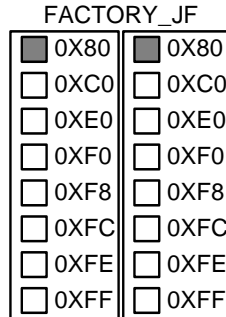

Figure 7: Edit Block View of DCM FACTORY\_JF Settings
- Check the two 0X80 options for the FACTORY\_JF DCM attribute, as shown in Figure 7.